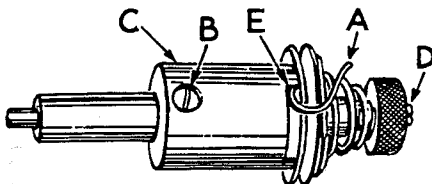
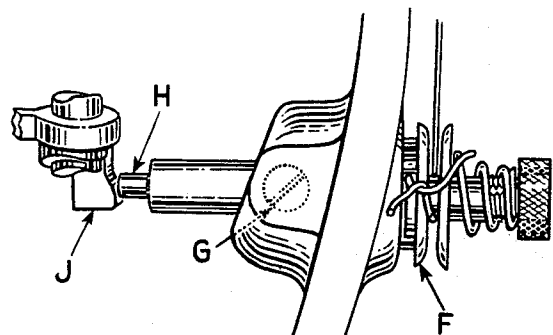
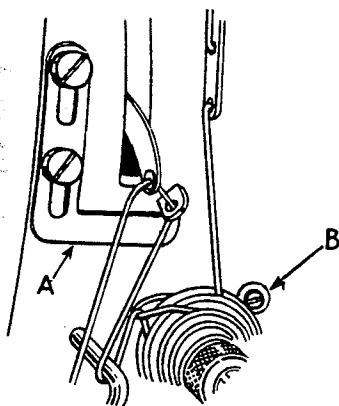

Fig. 20
Fig. 21
Fig. 22
Test check spring tension (A, Fig. 20). There should be enough tension to insure a good returning snap when spring is depressed and released.
Should it require adjusting, loosen set screw in the head on right side of tension post (G, Fig. 21) and remove tension post assembly. Partially loosen tension post set screw (B, Fig. 20) in tension post socket (C). Holding the socket in the left hand turn the tension post (D) counterclockwise with the right hand until the check spring moves away from the upper stop (E) and has no tension (E). Then proceed further in the same direction until the desired tension is obtained. When correct-
The frame take-up eyelet (A, Fig. 22) should be set at its lowest position.
The tension assembly should be located in bed from front to back, so that when the presser foot is raised to its highest position, the tension discs (F, Fig. 21) are opened just enough to allow the thread to pass through the discs freely.
To position the tension assembly, see that set screw in bed (G, Fig. 21) is loose and tension assembly adjusting screw (B, Fig. 22) is screwed down to the bed.
Lift the presser foot hand lifter to its highest position; with the left hand grasp the thread and pull it through the tensions, with the right hand push tension post deeper into the machine until release pin (H, Fig. 21) pressing against the presser bar connection (J) has opened the tension discs just enough to allow the thread to pull through freely. Re-tighten set screw (G), turn tension assembly adjusting screw (B, Fig. 22) counterclockwise until it contacts the flange of the tension post socket.